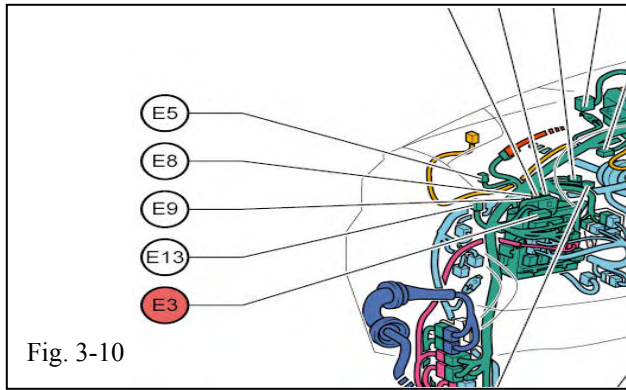

Fig. 3-10
- (i) Locate 10-pin connector E3 (Power Mirror Switch Connector). (Fig. 3-10)